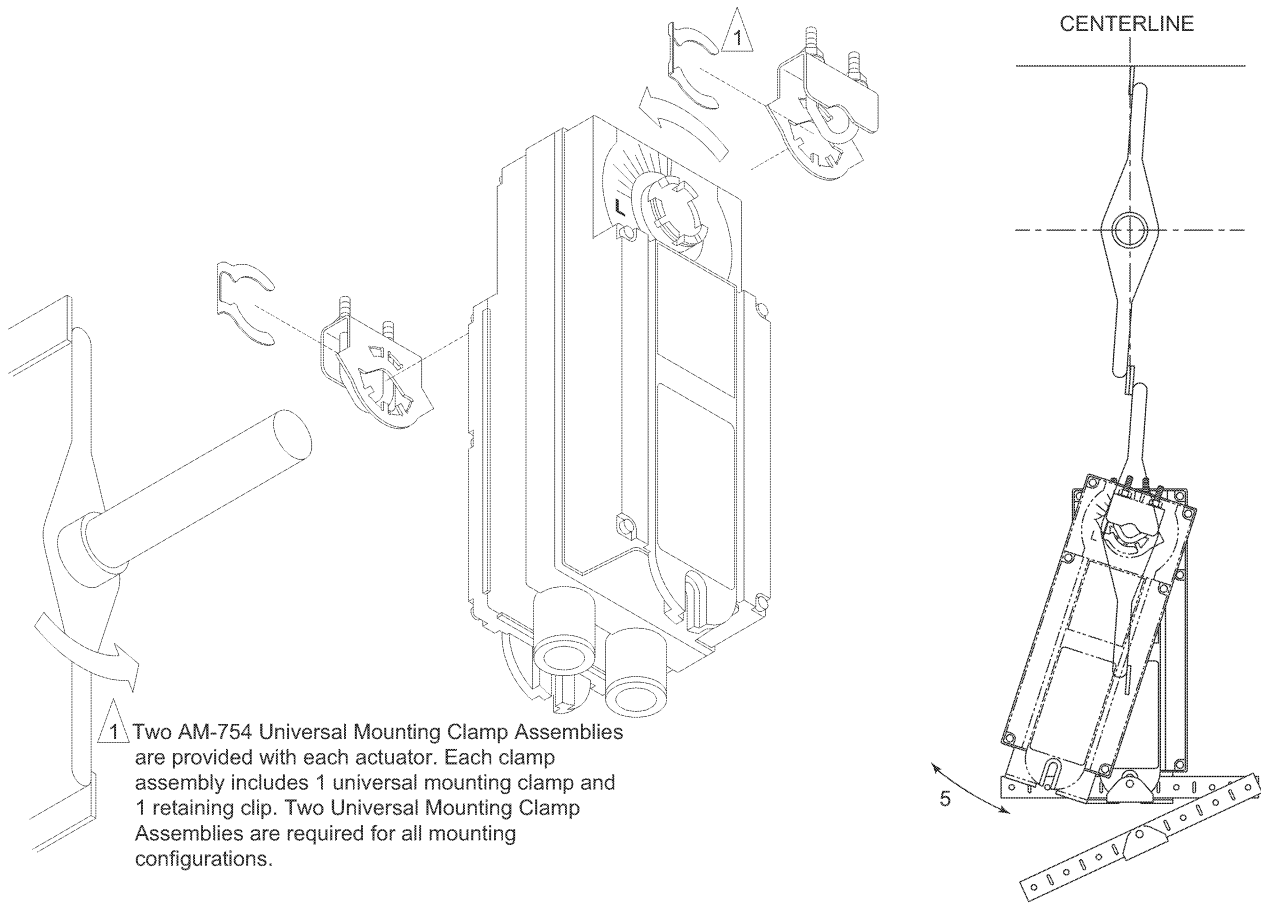

Figure-8 Long Damper Shaft Installation and Actuator Parts Identification.
- If the damper shaft rotates counterclockwise to the closed position, mount the actuator with the side marked "L" facing the installer. See Figure-8.